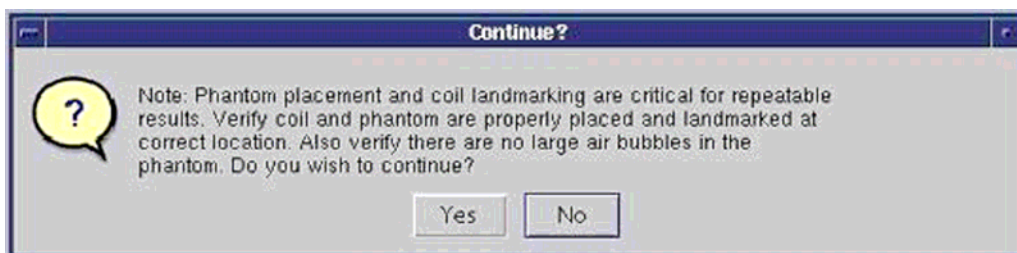

Figure 14: Phantom/Coil, Landmark Warning Popup
6. A warning dialog (*Figure 14*) will be shown, asking the user to verify the coil/phantom set-up and position. Ensure the phantom and coil setup is proper and select [Yes] to continue.